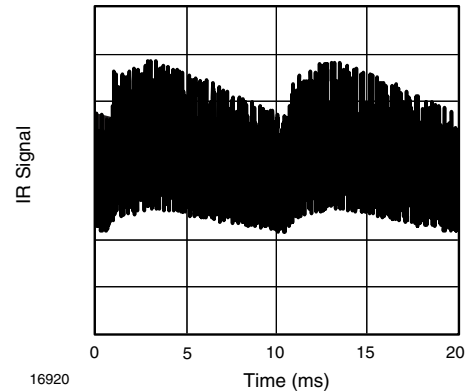
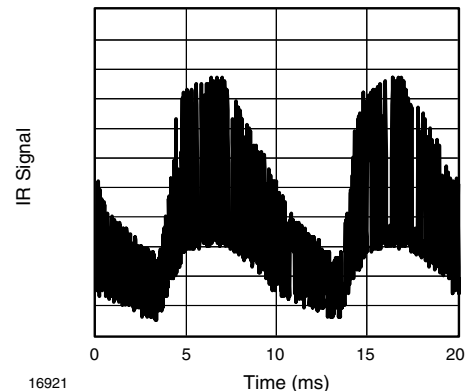

Fig. 11 - IR Noise from Fluorescent Lamp with Low Modulation
Fig. 12 - IR Noise from Fluorescent Lamp with High Modulation
- Burst-like IR signals from common fluorescent lamps as shown in fig. 11. Highly modulated noise as in fig. 12 is not completely suppressed